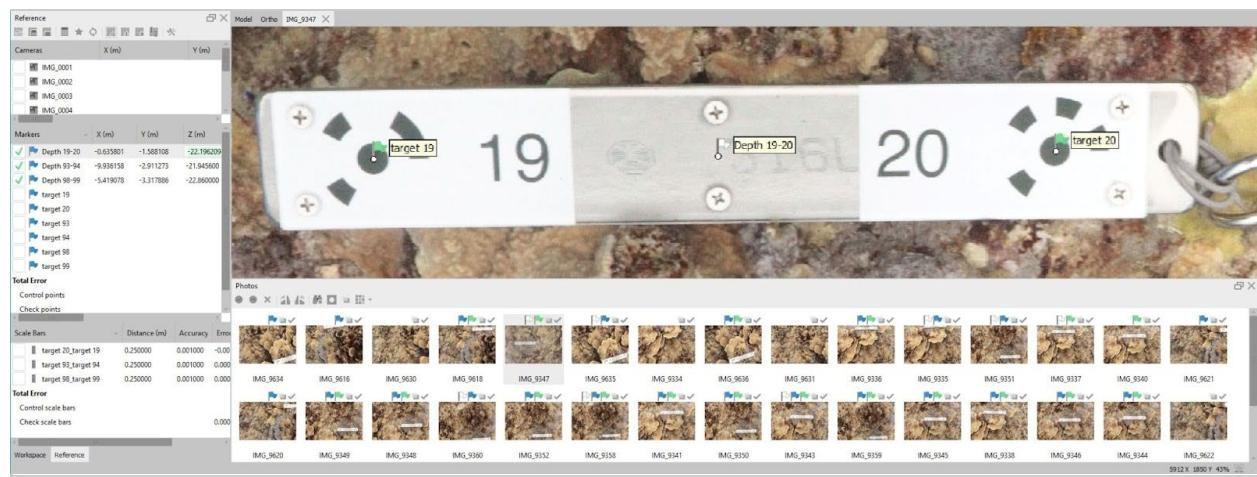

Figure 4.21 Illustration of marker placement and depth value editing in Metashape for rectification.
- Important to zoom in as close as possible to place the marker on the scale bar (Figure 4.21).